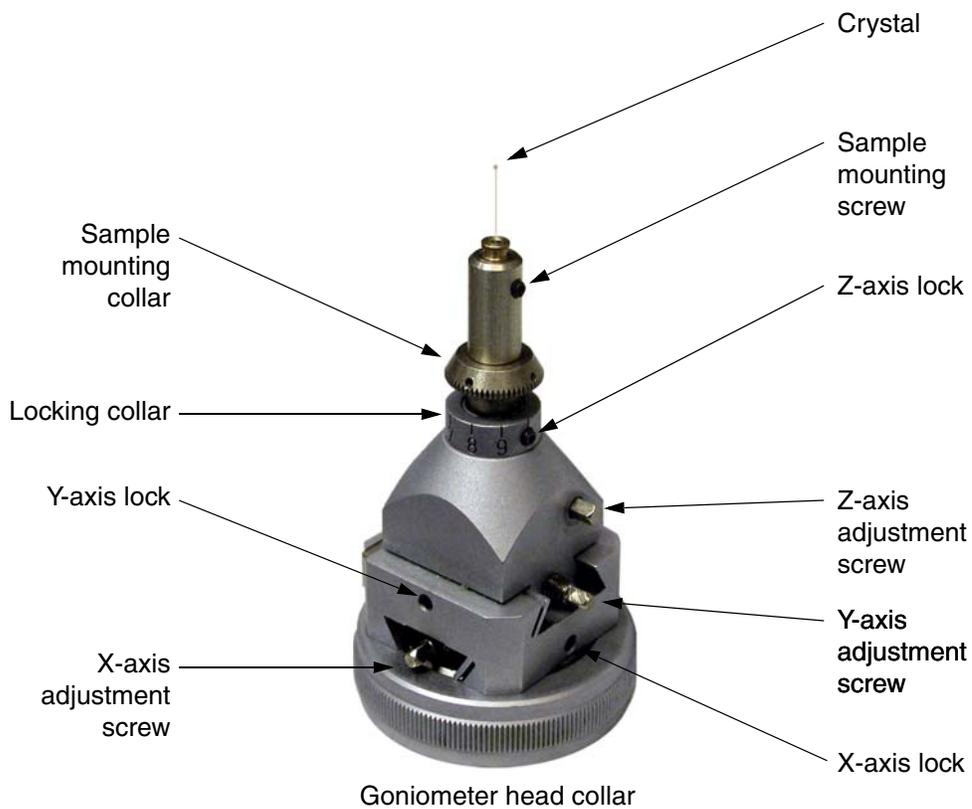
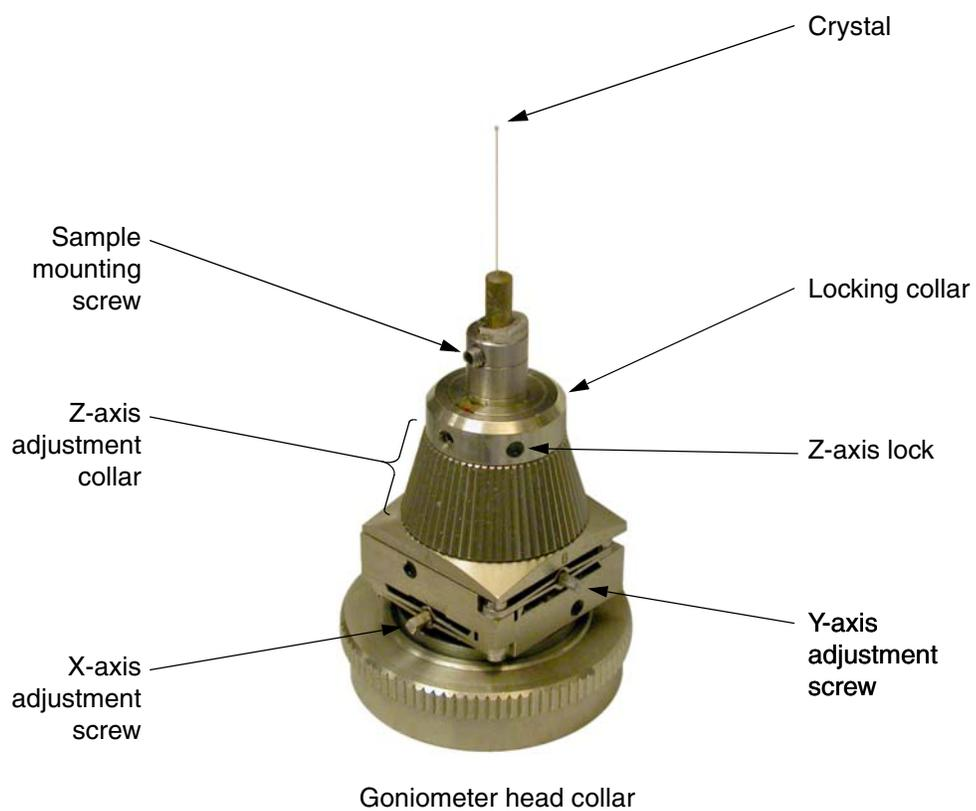

Figure 5.4 – Huber goniometer head in detail
Figure 5.5 – Nonius goniometer head in detail
- 2. Click the **Center** button. Move the crystal so that it is centered in the microscope reticle by adjusting the X- or Y- axis translation adjustment screw that is perpendicular to the microscope axis and facing you (see Figure 5.4 and Figure 5.5).